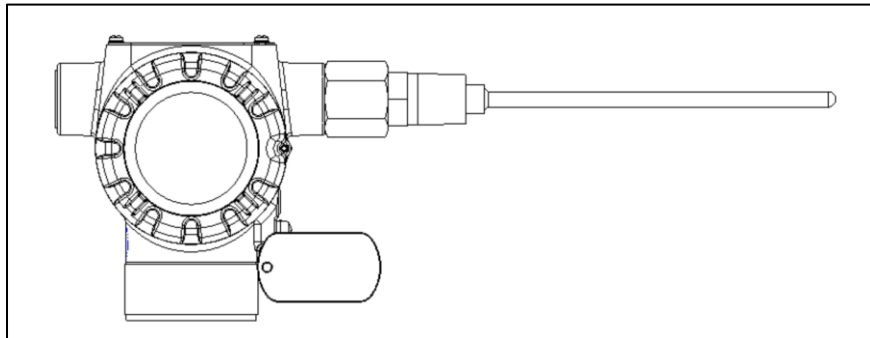

Figure 5: Transmitter with Rigid Probe
- 1) Rigid probe assembly without thermowell (Figure 5)